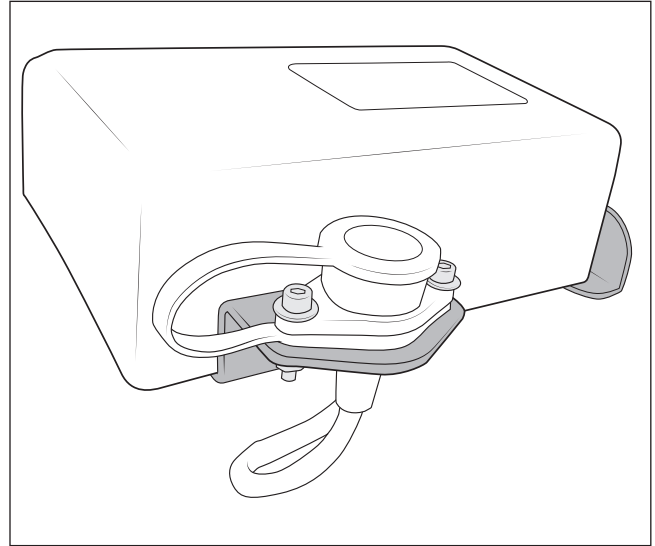

Figure 22
6. Install the winch remote plug into the AEV bracket with the supplied hardware and reconnect to the winch (fig. 22).